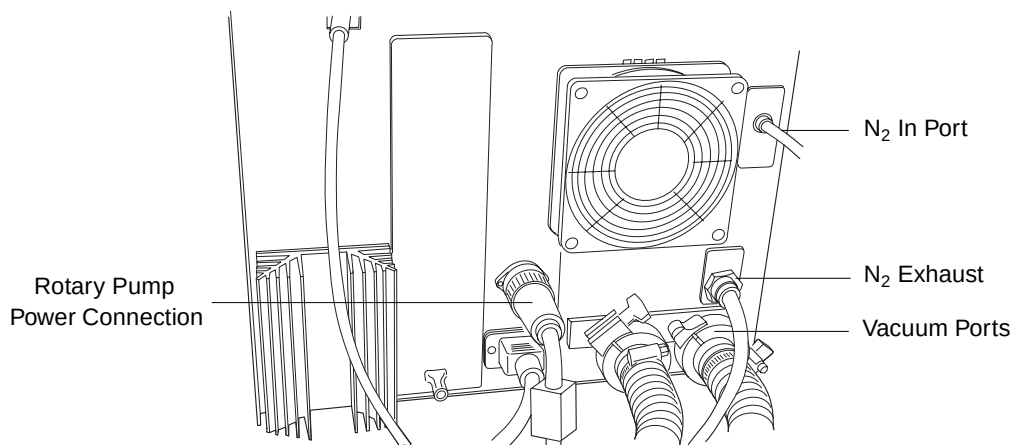

Figure 2-4 ZQ Detector Rear Panel
1. Connect one end of a length of the 6-mm PTFE tubing to the N₂ In port on the rear of the instrument (Figure 2-4).